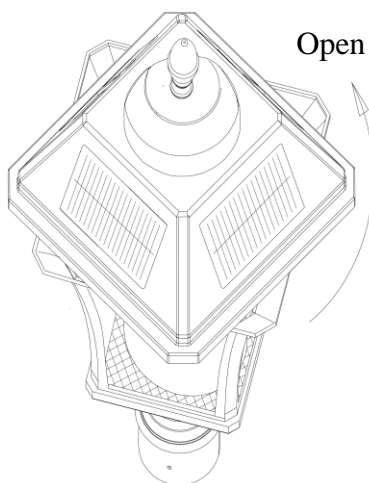

Fig. 1
1. Detach the upper part of the lamp as shown in (Fig.1) by turning the top counterclockwise.
1. Detach the upper part of the lamp as shown in Fig. 1 by turning it counterclockwise.